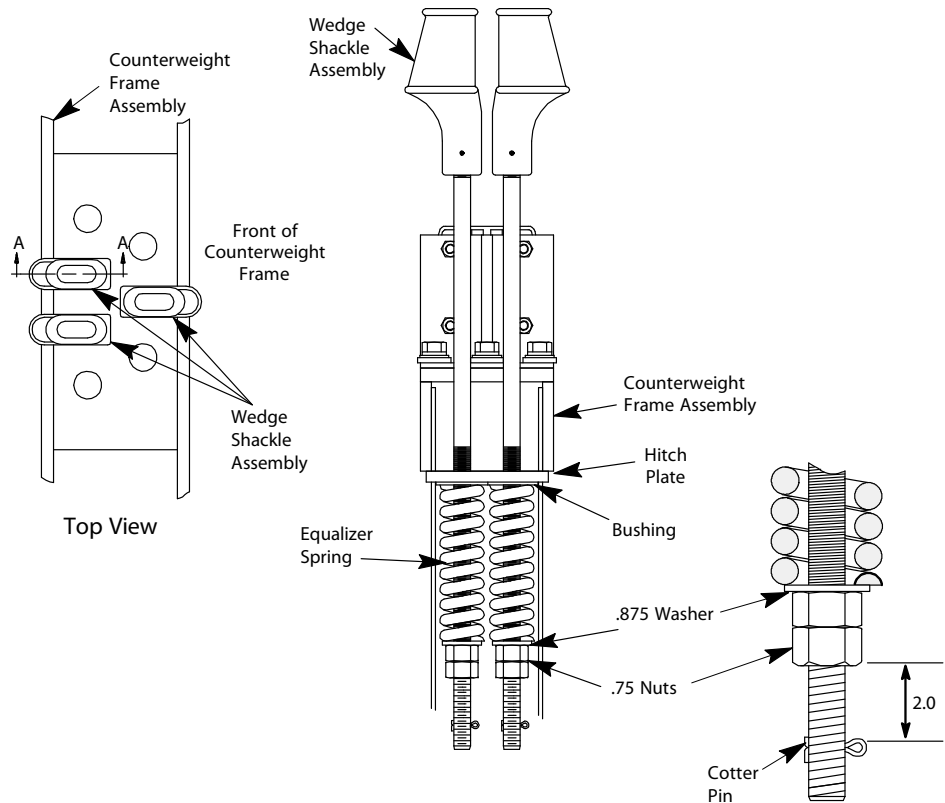

Figure 24 - Counterweight Rope Shackle Installation
7. Install the shackles at the counterweight. See Figure 24.